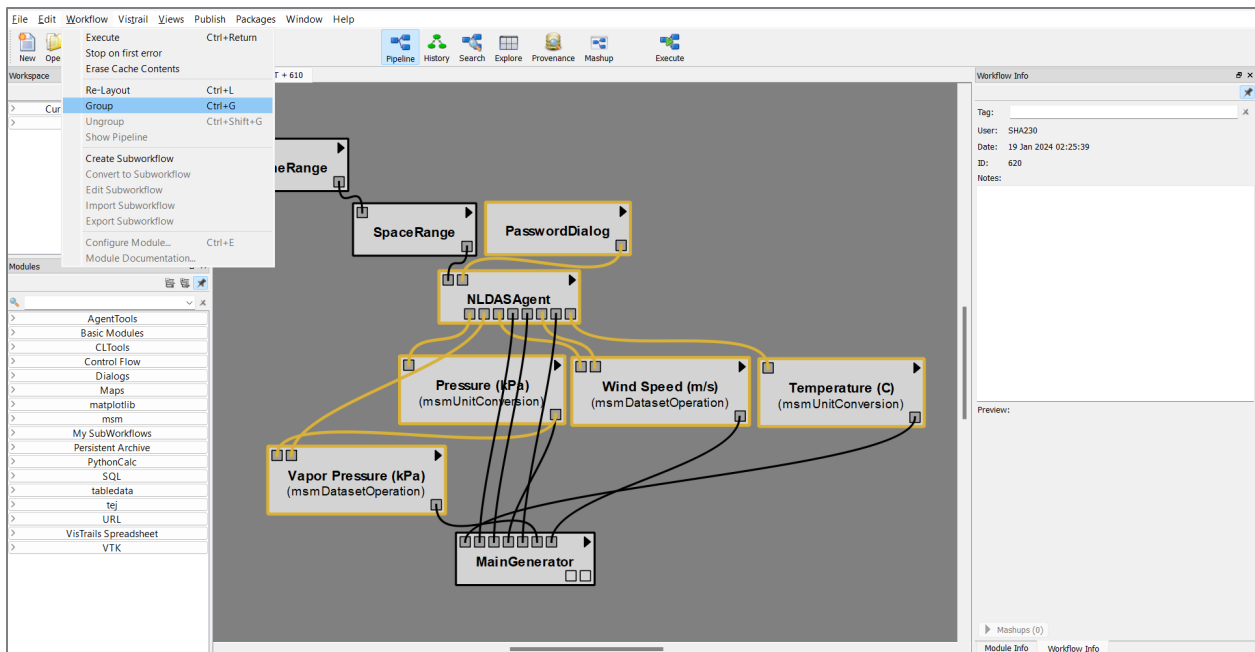

Figure 49. VisTrails grouping feature used to group the forcing portion of the VIC simulation with the Generic Model Agent.
*VisTrails* offers a nice feature that allows the user to group multiple modules in order to facilitate display. Select all the modules between *SpaceRange* and *MainGenerator* and go to the Workflow>Group menu on the top toolbar. This is shown in Figure 49.